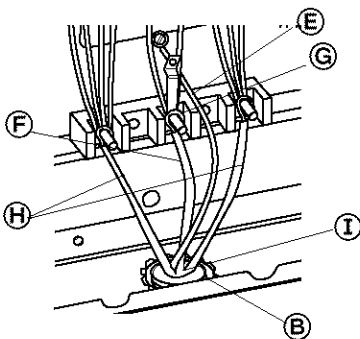

Figure 2
9. Connect the bare ground wire Ⓔ from power supply cable to the range using the ground-link screw. **The ground wire must be attached first and must not contact any other terminal.** See Figure 2.
10. Connect the neutral wire (white wire) Ⓕ to the center, silver-colored terminal screw Ⓖ on the terminal block using the brass terminal nuts that are attached to the inside of the terminal block cover. See Figure 2.
11. Connect the other two wires Ⓖ and Ⓗ to the outer terminals on the terminal block. See Figure 2.